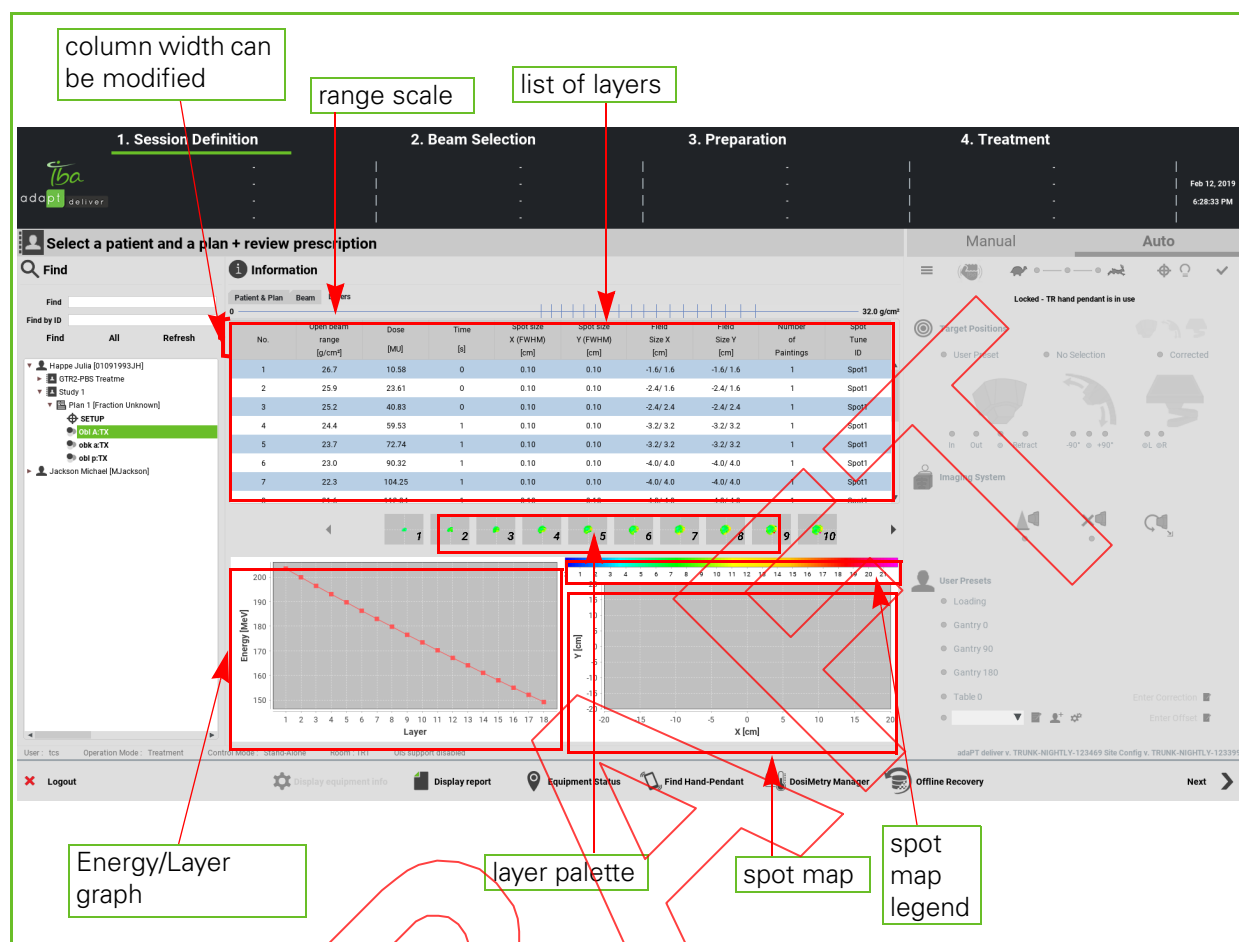

Figure 33-5. Layer Information (Sample)
- **List of all layers:** this is the list of all layers, from the most distal layer (#1) till the most proximal layer (e.g., in the sample illustrated by Figure 33-5: #7).
The sequence number of the current layer is enlarged (layer 6 in Figure 33-5).
The sequence number of the current layer is represented by a white square (layer 6 in Figure 33-5).